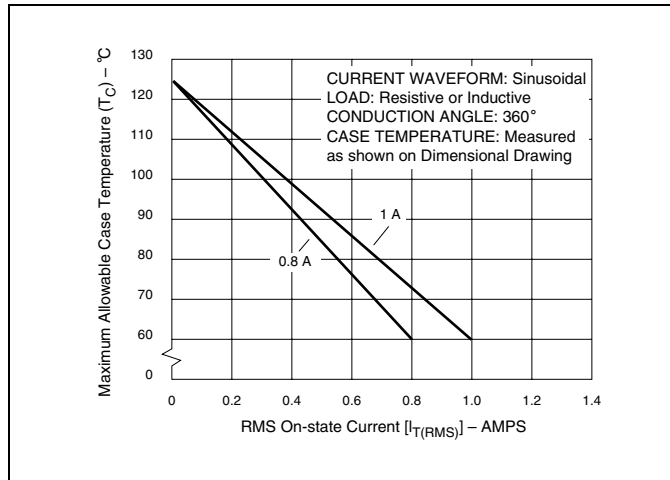
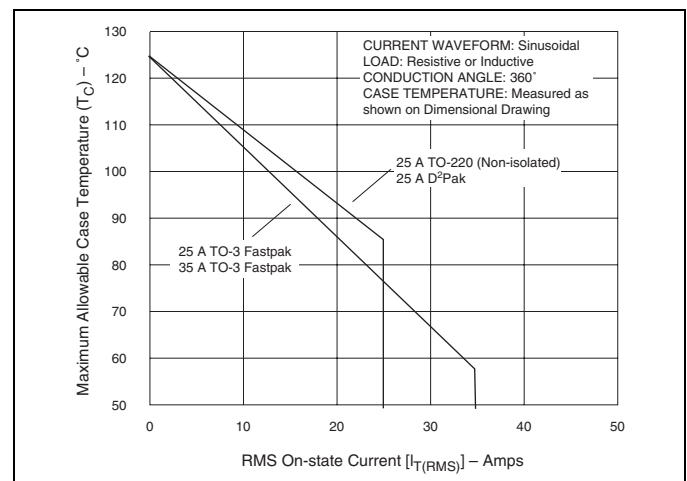
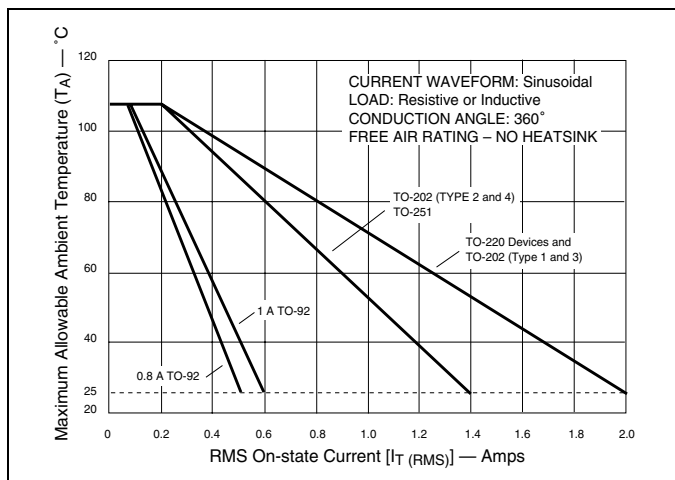
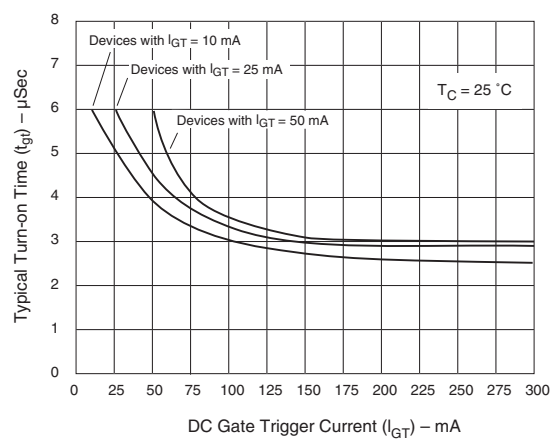

Figure E2.1 Maximum Allowable Case Temperature versus On-state Current (0.8 A and 1 A)
Figure E2.6 Maximum Allowable Case Temperature versus On-state Current (25 A and 35 A)
Figure E2.7 Maximum Allowable Ambient Temperature versus On-state Current
Figure E2.15 Turn-on Time versus Gate Trigger Current (Typical)
- (1) For either polarity of MT2 with reference to MT1 terminal
- (2) For either polarity of gate voltage ( $V_{GT}$ ) with reference to MT1 terminal
- (3) See Gate Characteristics and Definition of Quadrants.
- (4) See Figure E2.1 through Figure E2.7 for current rating at specific operating temperature.
- (10) See Figure E2.15 for  $t_{gt}$  versus  $I_{GT}$ .
- (11) See package outlines for lead form configurations. When ordering special lead forming, add type number as suffix to part number.
- (12) Initial on-state current = 200 mA dc for 0.8 A to 10 A devices, 400 mA dc for 15 A to 35 A devices
- (13) See Figure E2.1 through Figure E2.6 for maximum allowable case temperature at maximum rated current.
- (14) Pulse width  $\leq 10 \mu s$ ;  $I_{GT} \leq I_{GTM}$
(18) Quadrants I, II, III only
(19) Minimum non-trigger  $V_{GT}$  at  $125^\circ C$  is 0.2 V for all except 50 mA MAX QIV devices which are 0.2 V at  $110^\circ C$ .